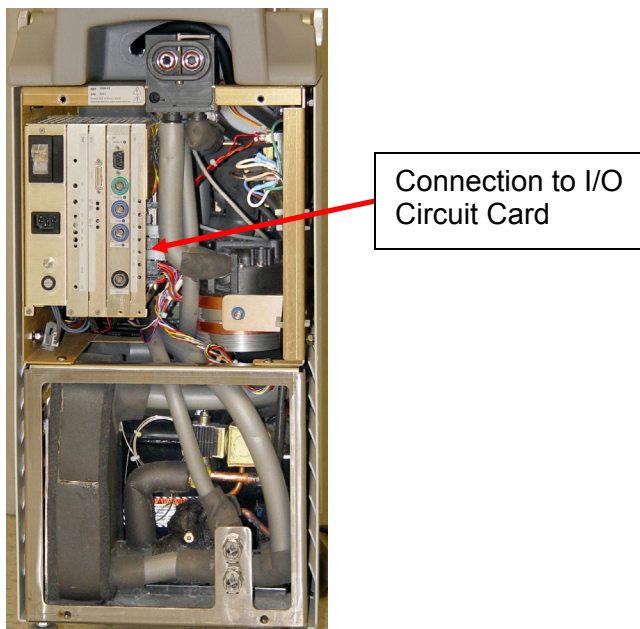

Figure 1: Connector Location in Machine
2. Disconnect the black connectors at J9 and J10 on the I/O Card at the right end of the card cage. (See Figures 1 and 2 below.) Be careful to depress the locking ramp while pulling on the connector housing. It may help to rock the housing slightly side to side. Do not pull on the wires. (Service Manual Section 7.10)